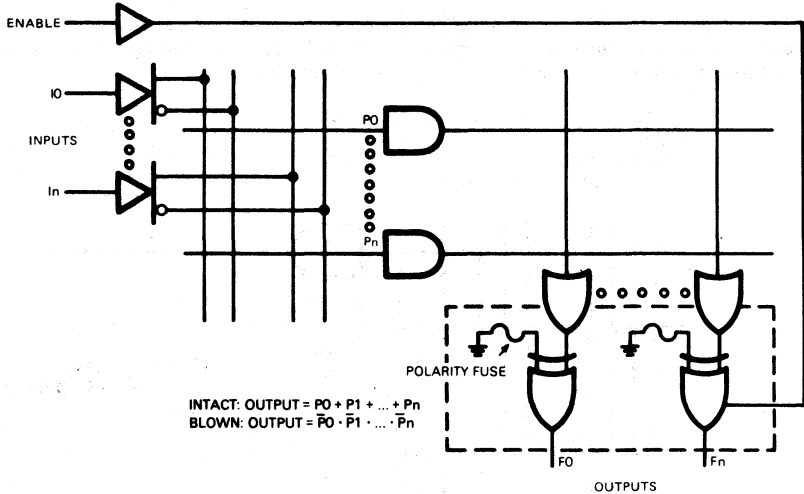

FIGURE 13
- **POLARITY SELECT** - Circuitry provides a polarity select fuse for each FPLA output. The function of these fuses is shown in Figure 13.